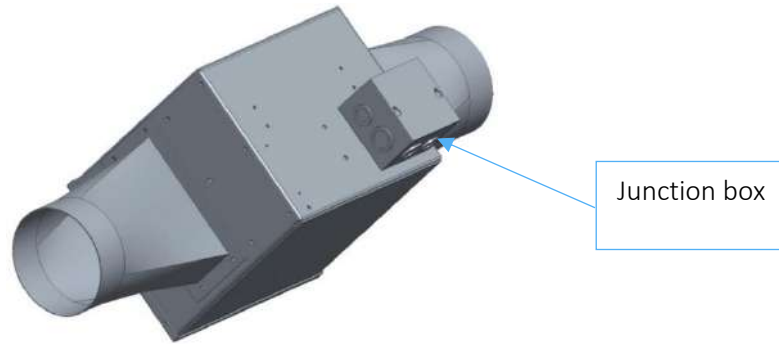

Fig. 36 Rear view of the projector 74-00013-01
- E. Take out the rubber cable glands from the branching terminal board (Figure 36): insert the supply cables from the projector into one cable gland and the external supply cables into the other.